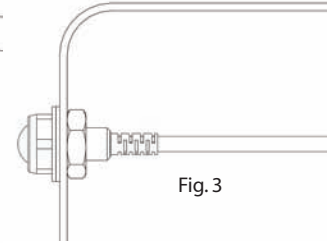

Fig. 3
5. When mounting the YP-LED fittings on thin plastic or in metal, use a 25/64 (10 mm.) drill bit. Use the provided backing nut (Fig. 3)